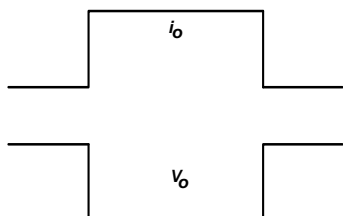
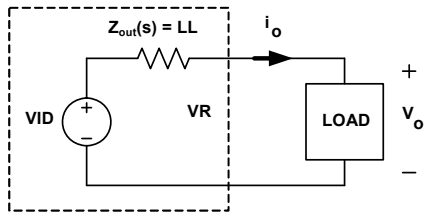

FIGURE 23. DESIRED LOAD TRANSIENT RESPONSE WAVEFORMS
FIGURE 29. VOLTAGE REGULATOR EQUIVALENT CIRCUIT
Assuming the compensator design is correct, Figure 23 shows the expected load transient response waveforms if C_n is correctly selected. When the load current I_{core} has a square change, the output voltage V_{core} also has a square response.
Figure 23 shows the desired load transient response waveforms. Figure 29 shows the equivalent circuit of a voltage regulator (VR) with the droop function. A VR is equivalent to a voltage source (= VID) and output impedance $Z_{out}(s)$. If $Z_{out}(s)$ is equal to the load-line slope LL, i.e., a constant output impedance, then in the entire frequency range, V_o will have a square response when I_o has a square change.